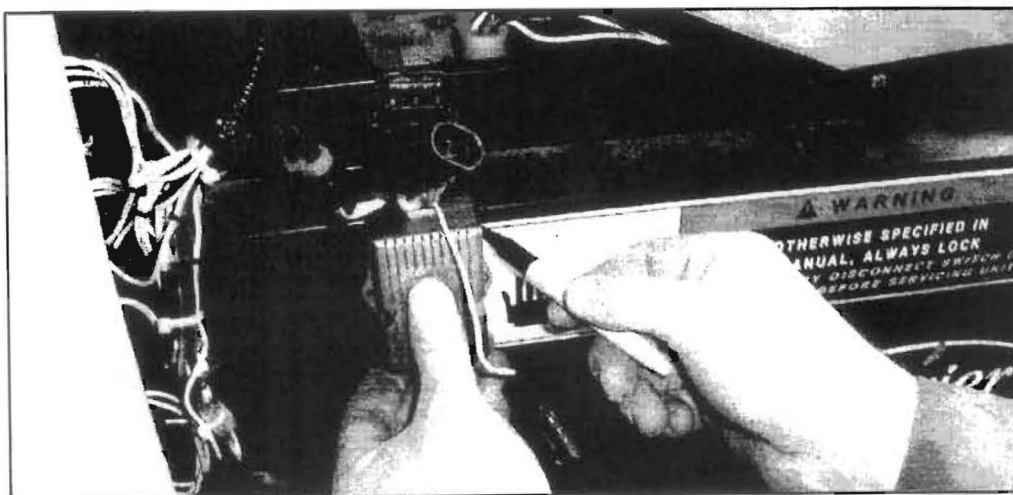

Figure 1.
3. Position the motor drive module (p/n 07-08-1860) on the access panel in the location shown in Figure 1.